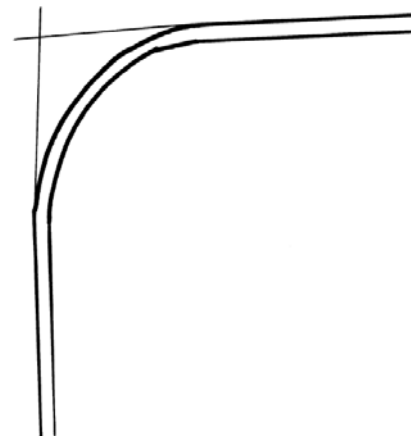

Figure 3 Horizontal curve
- (e) From the route location and design as shown in Figure 3, it shows that one horizontal curve is required. Based on field survey, it was found that the curve is located in steep up hill, highly rainfall area, small radius of a circular curve (the curve is sharp) with a two-way two-lane traffic having maximum traffic speed 30 km/hr. Based on these situation, you are asked to design the necessary traffic signs and pavement markings. Discuss your answer.